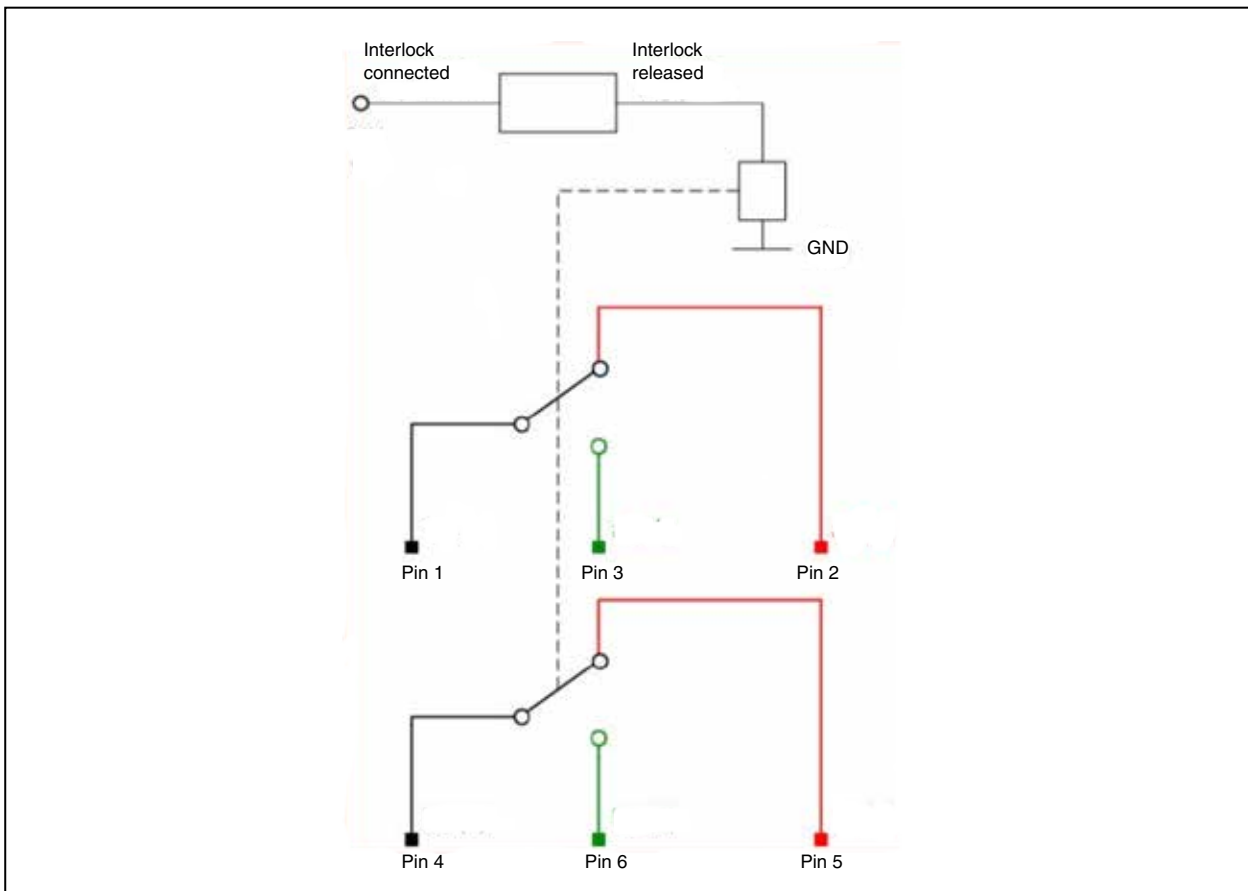

Fig.8.3: Circuit diagram of the interlock plug
- ▶ **When connecting the laser control with the pins 1 to 4 and 3 to 6 please ensure that - in case of a interruption of this connection – the laser is turned off. (please see circuit diagram, Fig.8.3).**